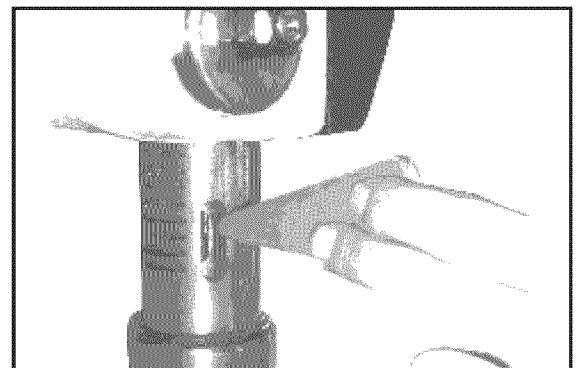

Figure 10
5. Insert the Key-drift provided into the slot. (Fig. 10)